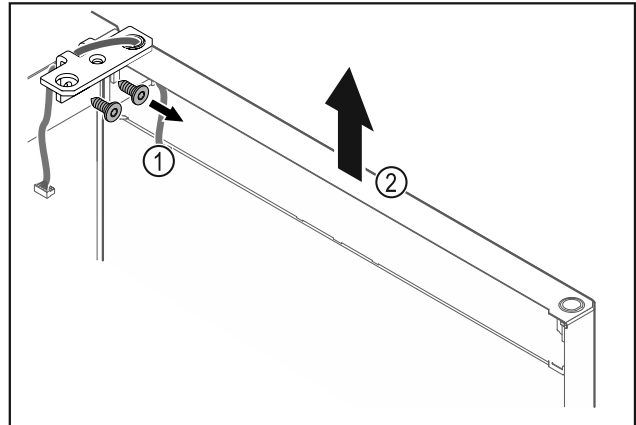

Fig. 25
- ▶ Unscrew the hinge Fig. 25 (1).
- ▶ Lift the door with the hinge straight up by Fig. 25 (2) roughly 200 mm (7.87 in) and take it off.